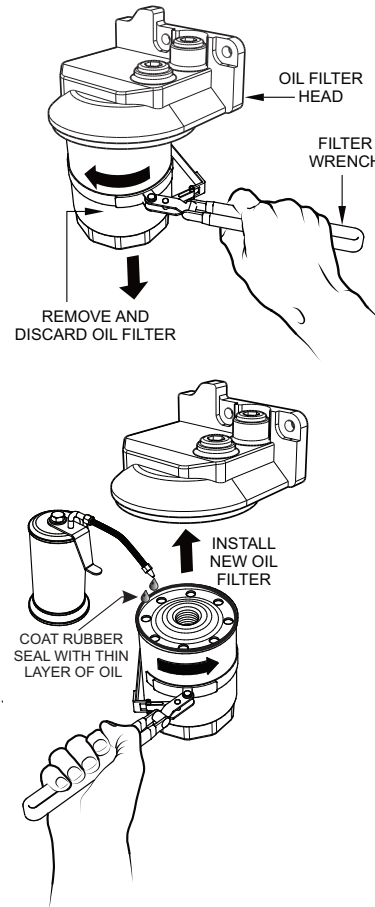

Figure 69. Engine Oil Filter Removal
- Using an oil filter wrench (Figure 69), remove engine oil filter.
- Coat the rubber seal (gasket) surface of oil filter (Figure 69) with clean 15W-40 engine oil.